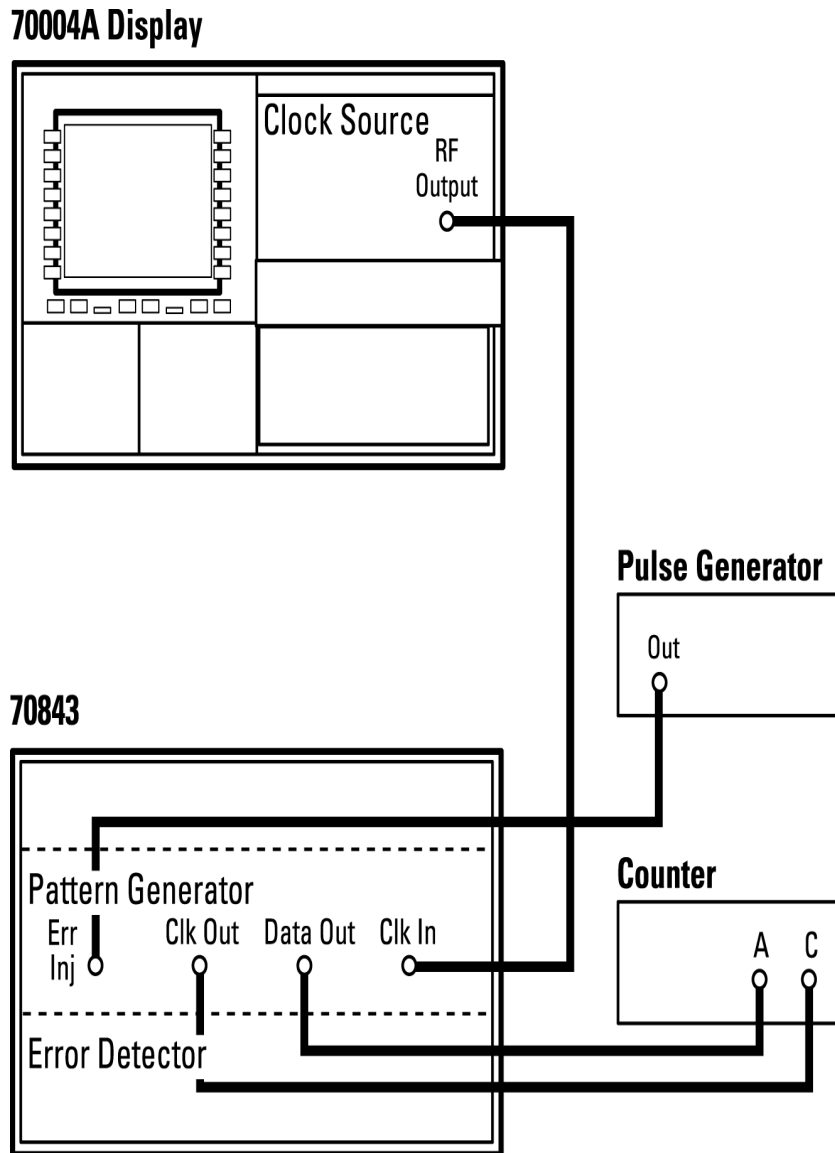

Figure 11-8
1. Connect a pulse generator to the pattern generator ERROR INJECT INPUT port and connect a frequency counter as shown in Figure 11-8.